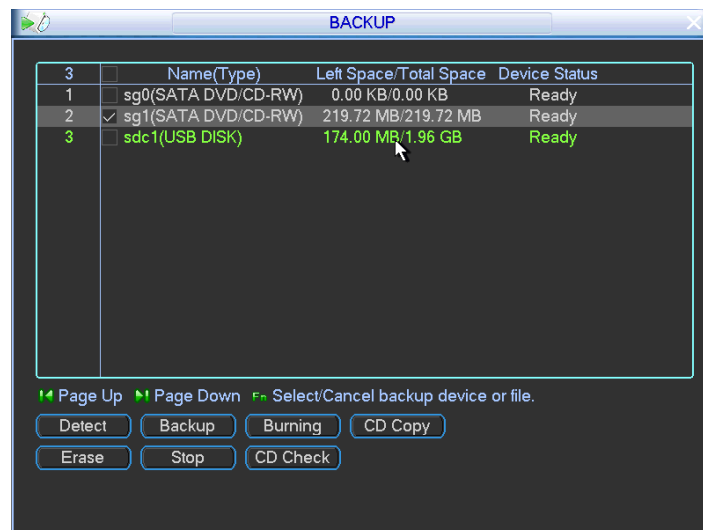

Figure 2-32
- Click backup button, the interface is shown as below. See Figure 2-32.